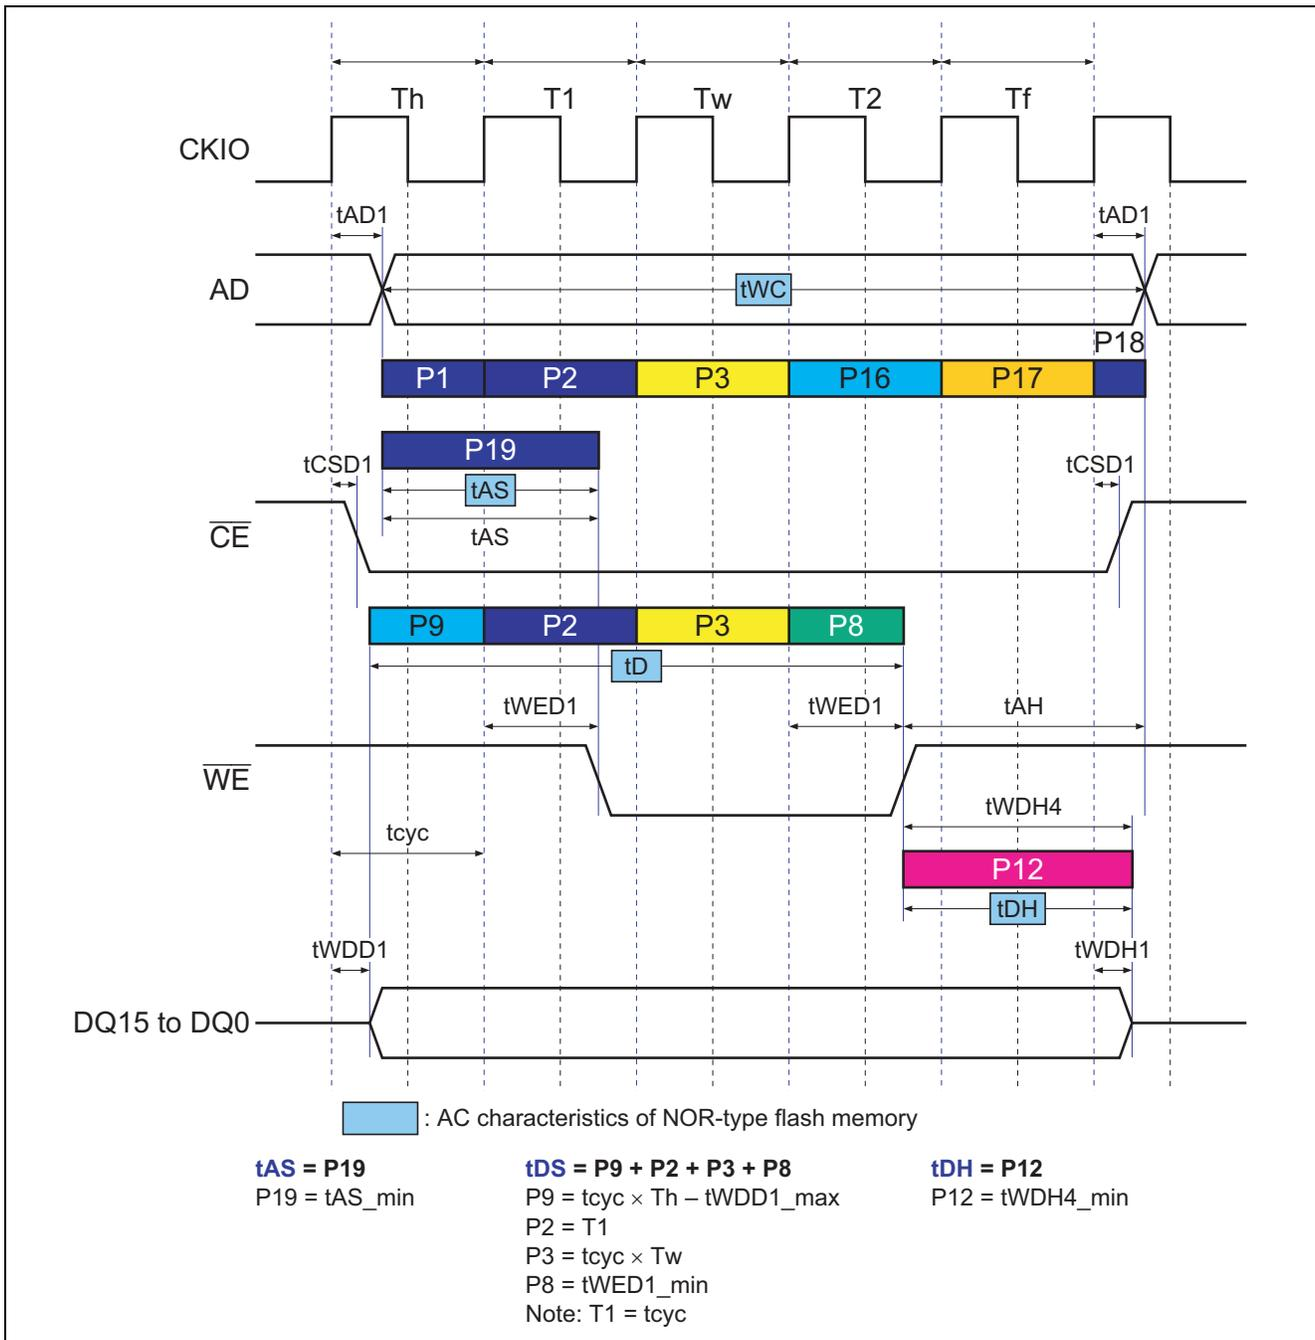

Figure 9 Write Timing for NOR Flash Memory When SW = 1, WR = 1, and HW = 1 (1)
- tWC of NOR flash memory (write cycle time) (figure 9)
- tAS of NOR flash memory (address setup time) (figure 9)
- tDS of NOR flash memory (data setup time) (figure 9)
- tDH of NOR flash memory (data hold time) (figure 9)
Figure 9 shows write timing 1 for NOR flash memory (1).